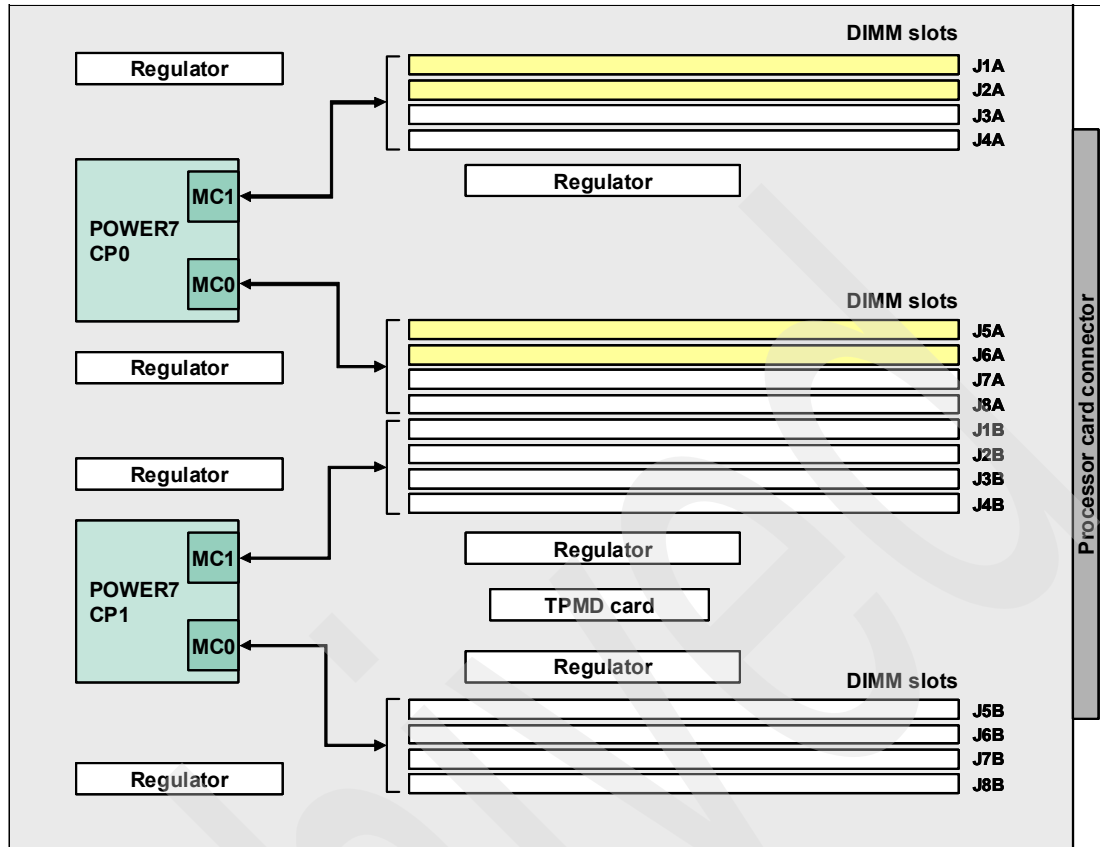

Figure 2-8 Physical memory DIMM topology for the POWER7 processor card
Figure 2-8 on page 39 shows the physical memory DIMM topology for the POWER7 processor card.
- ▶ The DIMM-quad placement rules for a single enclosure are as follows (see Figure 2-8 for the physical memory topology):